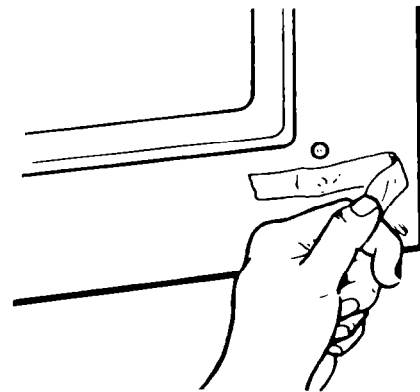

FIGURE 7
3. Remove the tape holding the oven light switch actuator. See **Figure 7**.